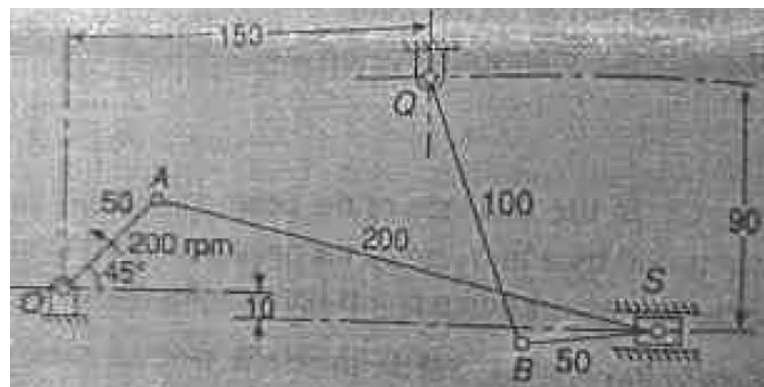

Fig. 3.1
3. a) Figure 3.1 shows a mechanism in which O and Q are the fixed centers. Determine the acceleration of the slider S and the angular acceleration of the link BQ for the given configuration. 12